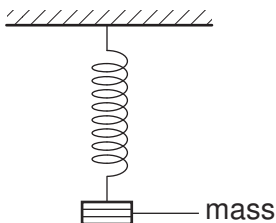

Fig. 3.1
- 4 One end of a spring is fixed to a support. A mass is attached to the other end of the spring. The arrangement is shown in Fig. 3.1.